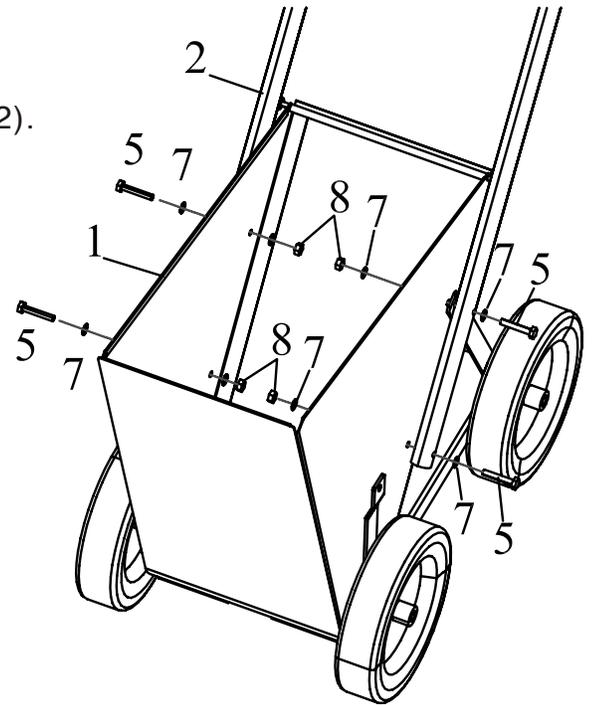

FIGURE 1
Connect the bottom end of Handle Frame (2) to the Bucket (1) using 2 Hex Bolts (5), 4 Washers (7) and 2 Lock Nuts (8). See Figure 1.